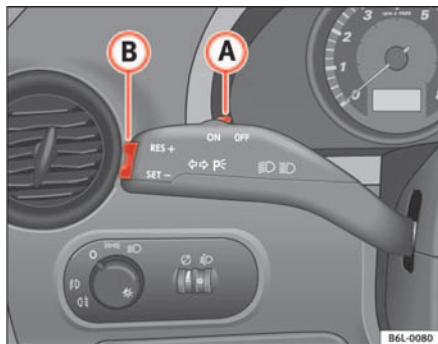

Fig. 101 Turn signal and main beam lever: Switch and rocker switch for CCS
- Move the control ⇒ fig. 101 **A** to the left to **ON**.